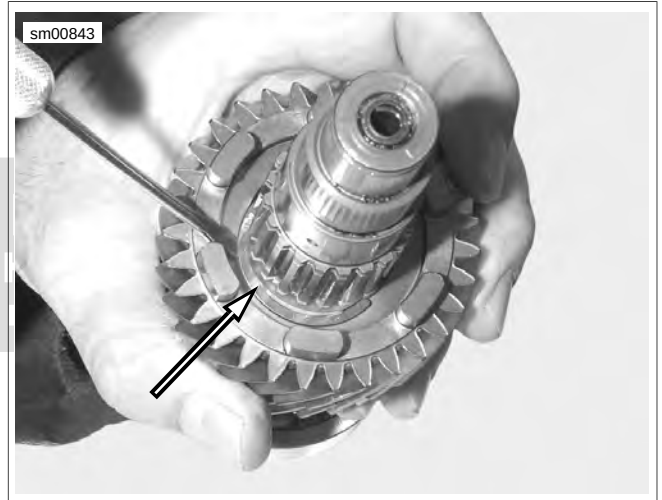

Figure 6-142. Half Moon Keepers
8. See Figure 6-142. Remove half moon keepers.